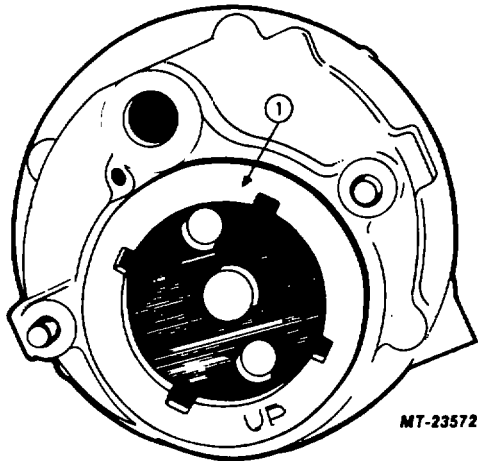

Fig. 37 Retainer Ring In Housing
12. Thread the retainer ring into pump body finger tight. Install the "UP" side of the ring up, Figure 37.